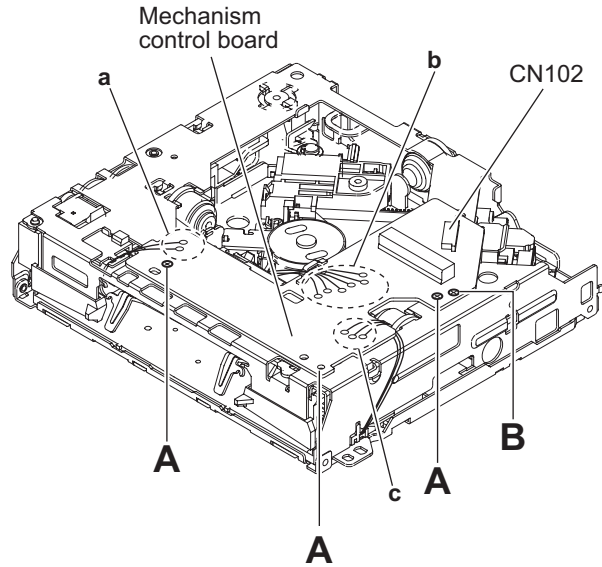

Fig.1
3.2.1 Removing the MECHANISM CONTROL BOARD assembly (See Fig.1 and 2)
- (1) From the bottom side of CD MECHANISM assembly, remove the solders from the soldered sections (a, b and c) on the MECHANISM CONTROL BOARD assembly. (See Fig.1.)
- (2) Remove the three screws **A** and one screw **B** attaching the MECHANISM CONTROL BOARD assembly. (See Fig.1.)